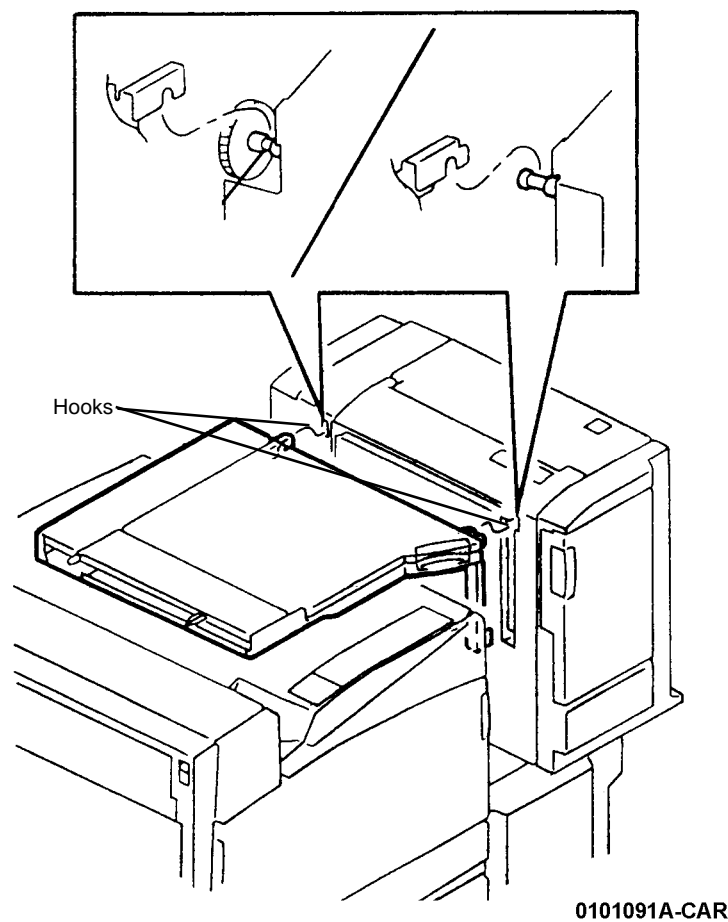

Figure 2 Removing H Transport
3. Lift input end of H Transport slightly and then raise to disengage Hook (2) from the Stud on both sides (Figure 2).